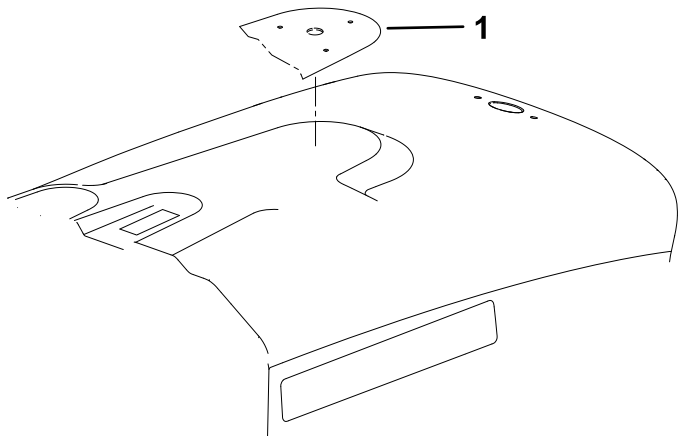

Figure 3
2. Align the hole template on the engine cover and drill the holes as shown in Figure 3 and Figure 6.
13. Lower the front platform and secure the engine cover (Figure 3).